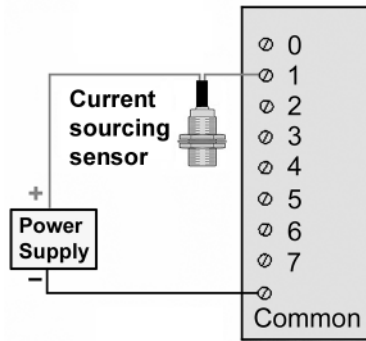

Figure 2-7 Current sourcing sensor for question 29.
29. The current sourcing sensor shown in Figure 2-7 must be matched with a _____ PLC input module.